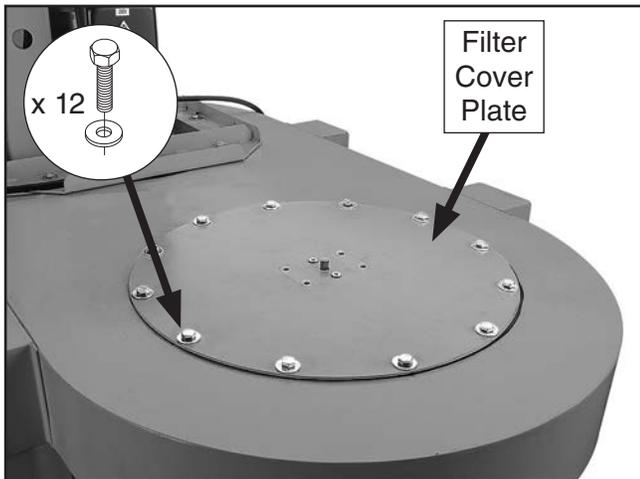

Figure 29. Filter cover plate installed.
29. Secure filter cover plate in a star pattern using (12) 5/16"-18 x 3/4" hex bolts and (12) 5/16" fender washers (see **Figure 29**).